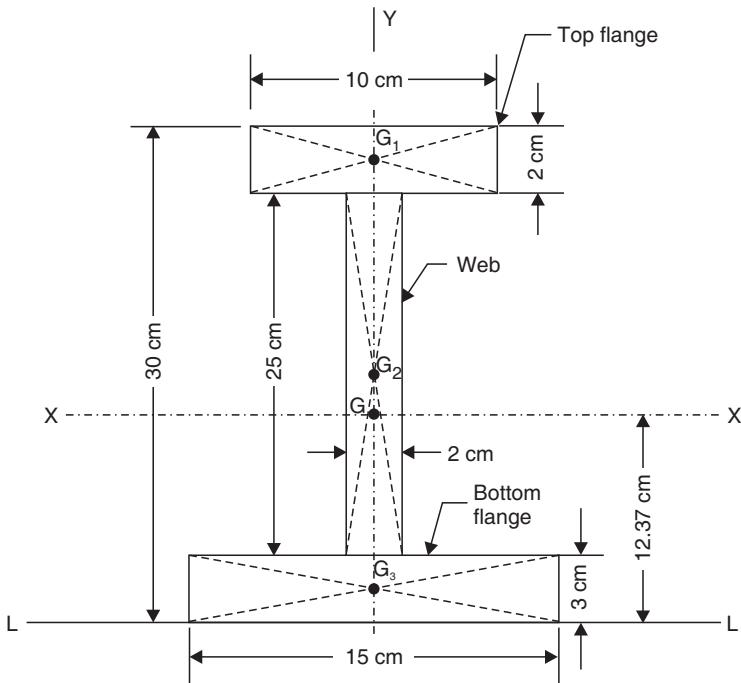

Fig. 7.21
**Example 7.2.** Determine the position of the centroid of I-section as shown in Fig. 7.21.
**Sol.** Refer to Fig. 7.21.